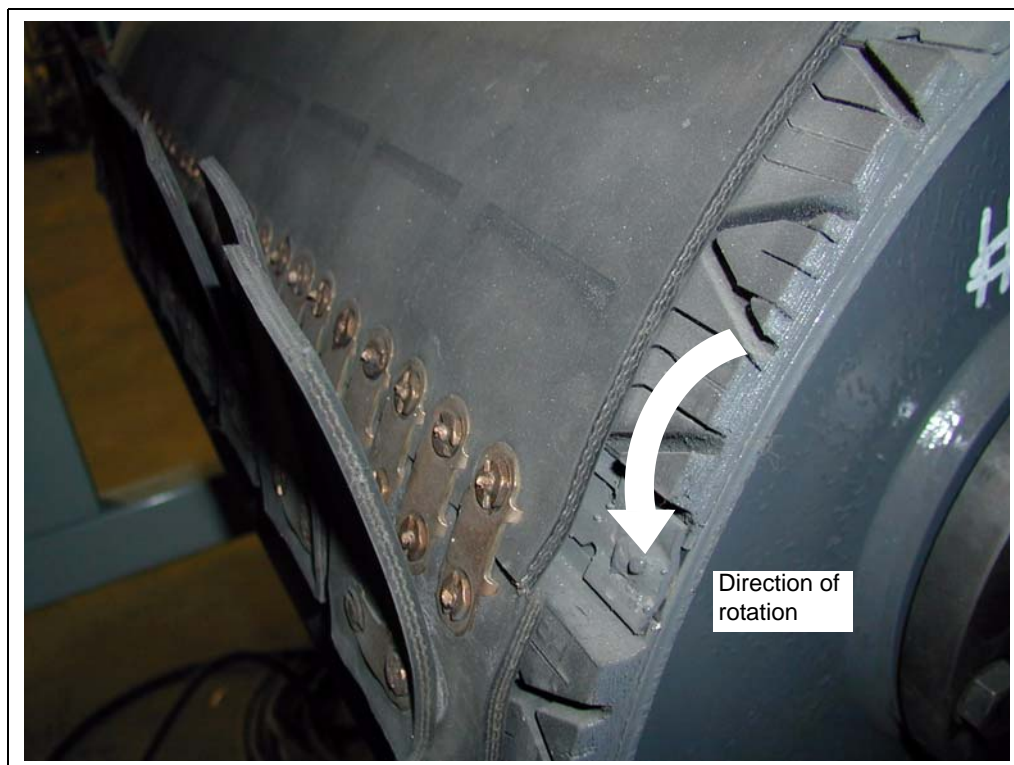

Figure 6S
13. Place flippers on belt. The flipper should be located so the tail of the flipper covers the splice. **Note direction of belt travel.** The flippers are evenly spaced across the belt with a 6.35 mm gap between them. There will be a larger gap between the outside flipper and the edge of the belt. (See Figure 6S.)